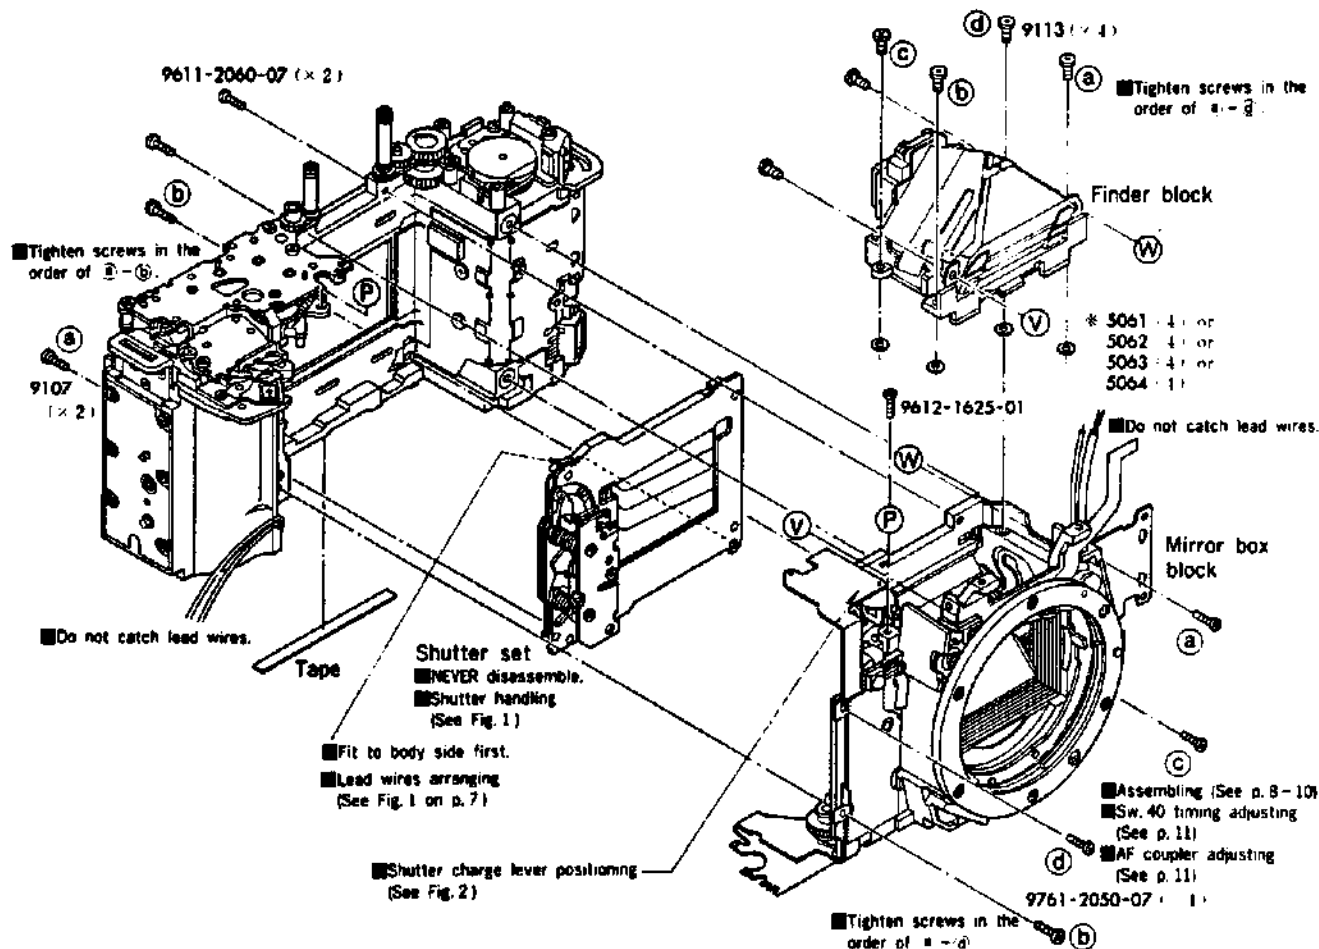

Fig. 1 Shutter handling
■ Fig. 1 Winding completion of winding base plate set
■ Fig. 1
■ Fig. 1 0584 lead wire, flexible PC board B arranging.
1. Set the measuring instrument as Fig. 1.